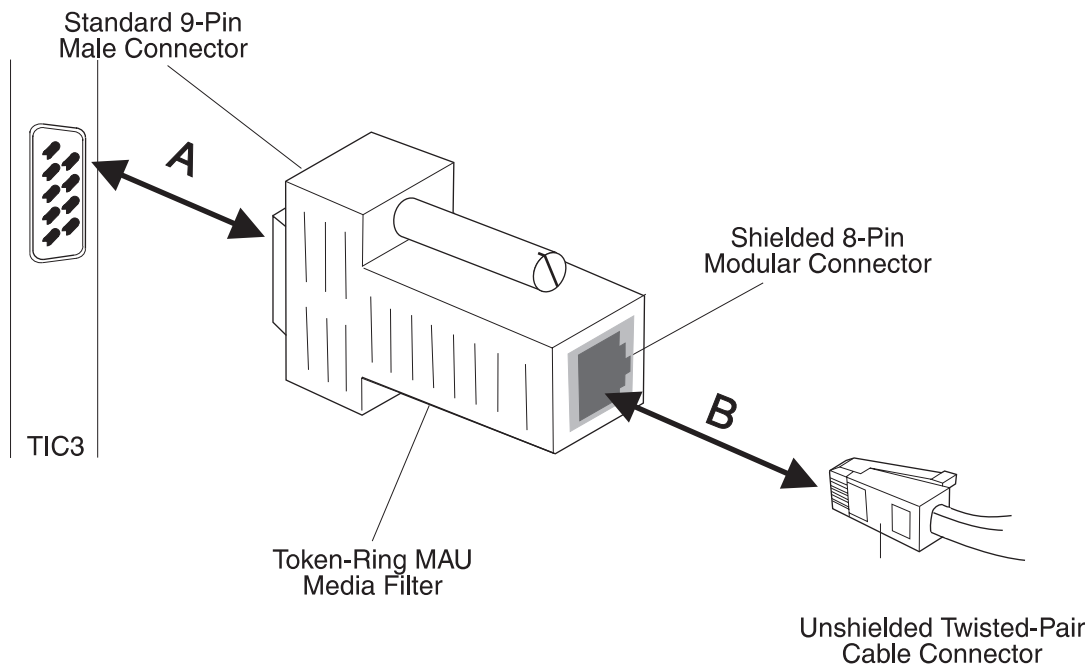

Figure C-6. Installing or Removing a Token-Ring UTP Cable and Media Filter
- Step 2** Pinch the UTP cable connector and pull it out (see A in Figure C-6 on page C-6).
- Step 2** Loosen the retaining screws and pull out the media filter (see A in Figure C-6).
- Step 2** Insert the media filter into the TIC3 connector and tighten the retaining screws (see A in Figure C-6).
- Step 1** To plug in a UTP cable, push the connector into the media filter socket until it clicks into place (see B in Figure C-6).